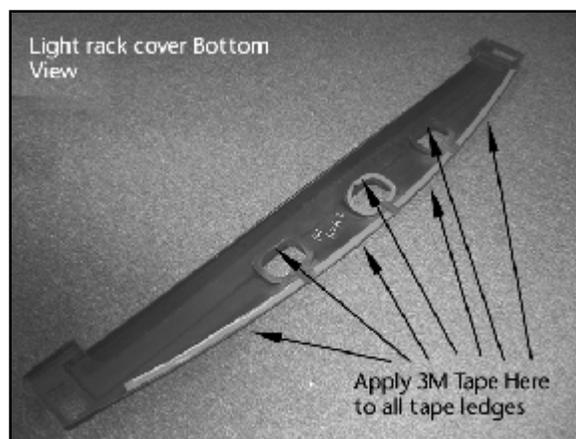

Fig.2
4. Apply tape to Light rack Cover as Shown in Fig.2 DO NOT REMOVE TAPE BACKING AT THIS TIME.